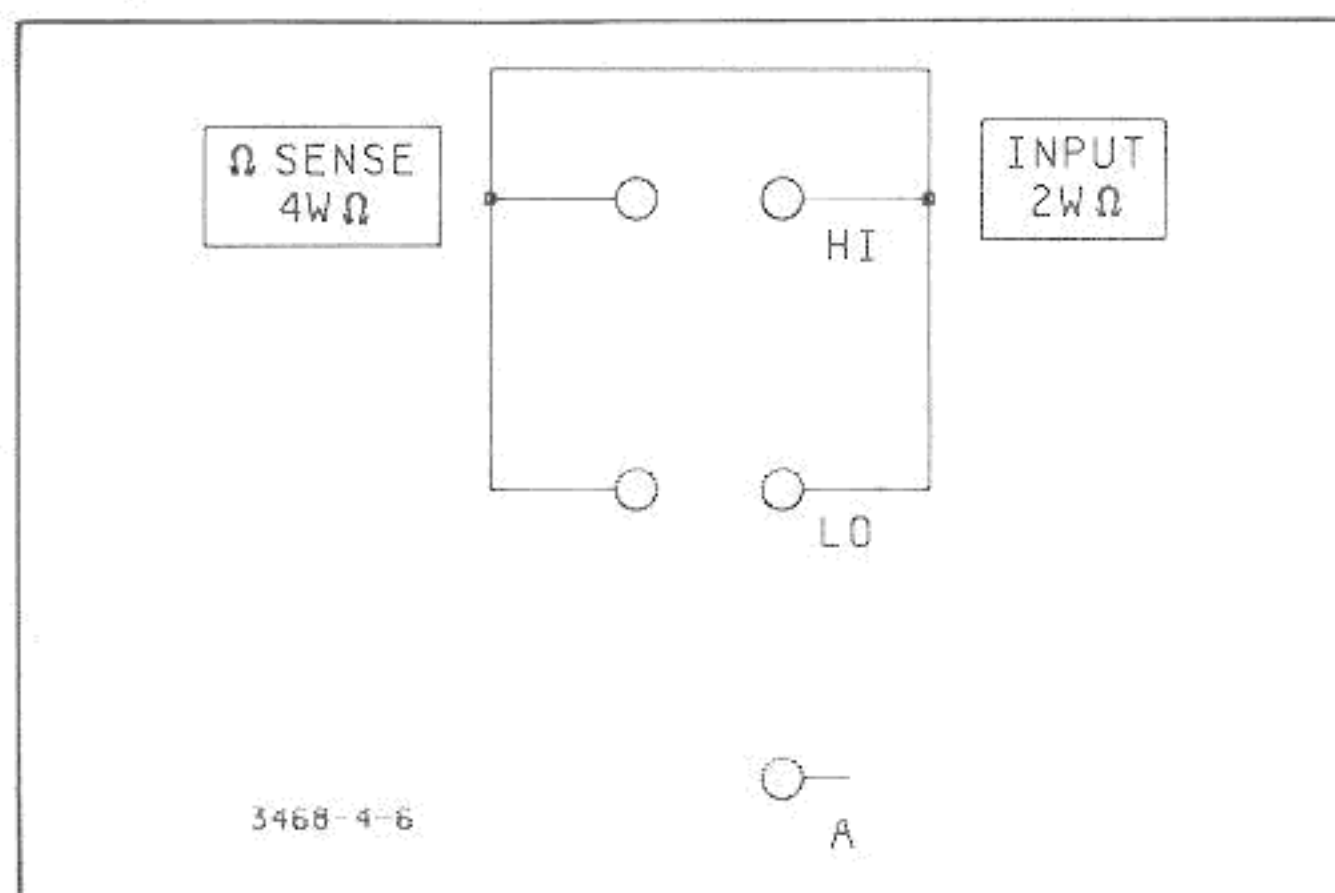
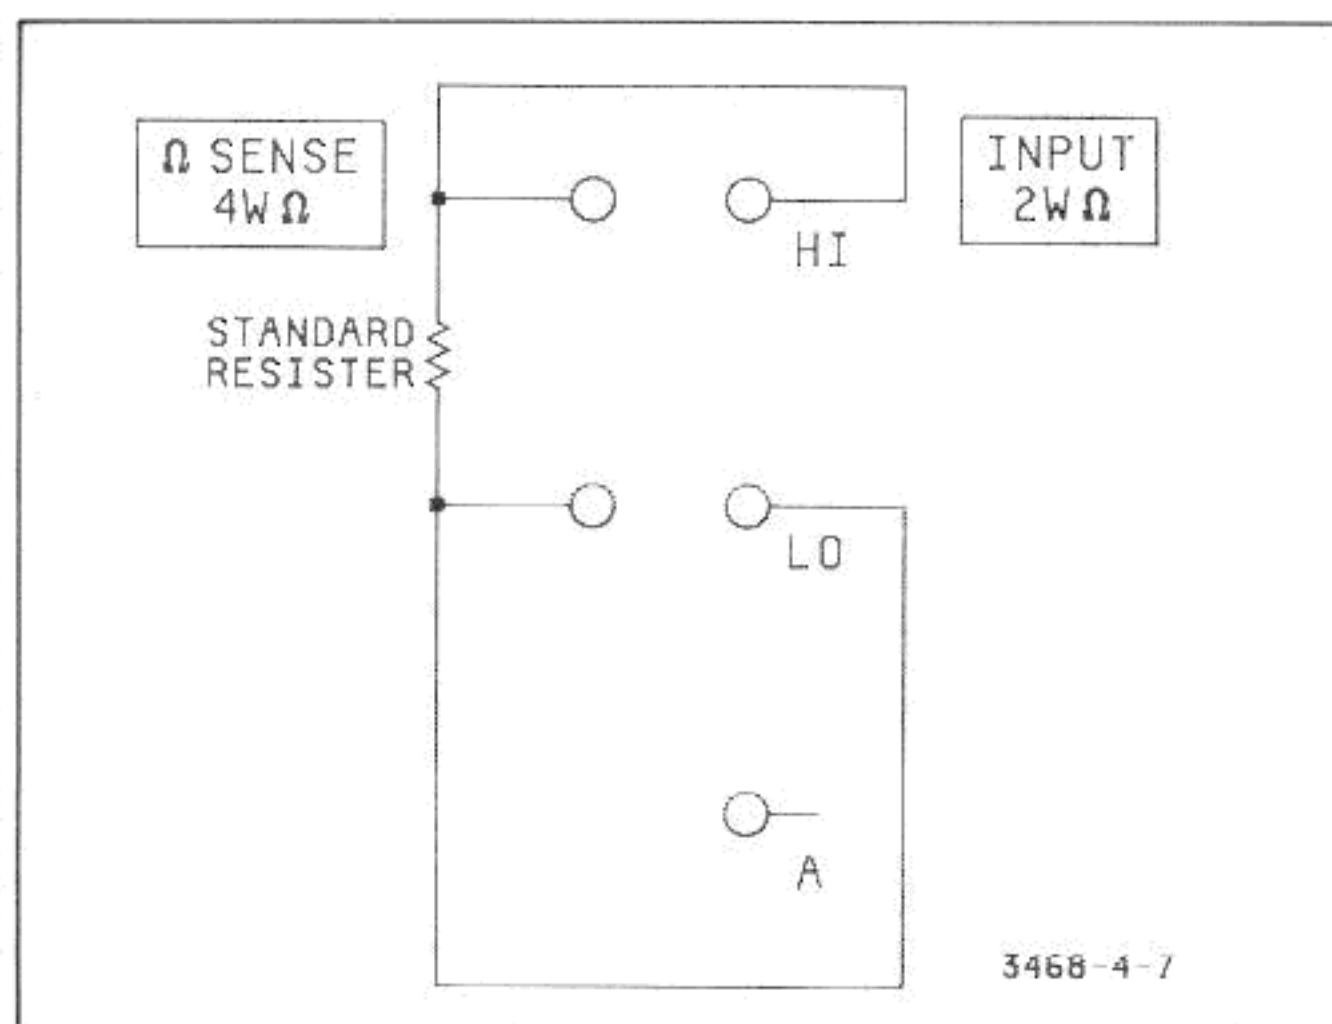

Figure 4-6. 4-Wire Ohms Test Connection
Figure 4-7. 4-Wire Ohms Connections
4-72. If the 3468A is to be tested in the 2-Wire Ohms Function, all test resistors are applied to the 3468A's INPUT Terminals. If the 4-Wire Ohms Function is to be tested, short the INPUT Terminals or connect the test resistors as shown in Figure 4-6 and Figure 4-7, respectively.
b. (Step #2.) Set the 3468A to the desired Ohms Function (see paragraph 4-70). If the 2-Wire Ohms Function is to be tested, short the INPUT Terminals. If the 4-Wire Ohms Function is to be tested, short the SENSE Terminals and the INPUT Terminals, as shown in Figure 4-6. Check the reading on the 3468A's display and record the reading on the Test Card.
e. Connect either a 300 Ω or 100 Ω Standard Resistor to the INPUT Terminals (refer to paragraph 4-71 to determine the resistor value). If the 3468A is to be tested in the 2-Wire Ohms Function, connect the resistor to the INPUT Terminals. If the test is to be done in the 4-Wire Ohms Function, connect the resistor as shown in Figure 4-7.